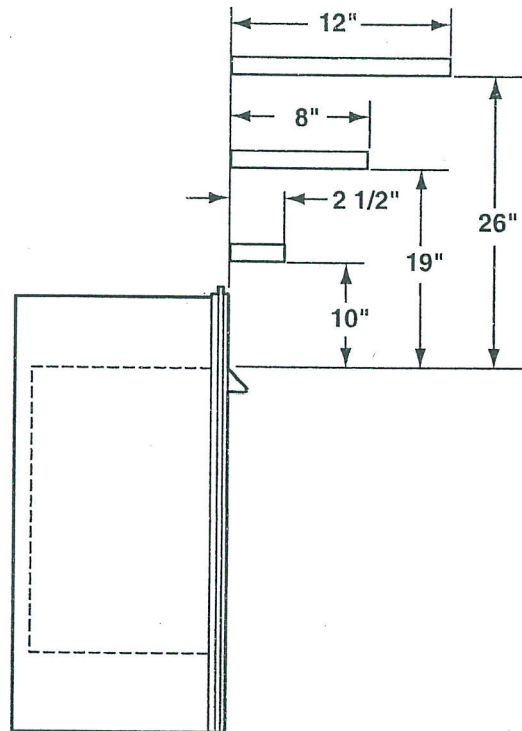

Figure 10. Minimum Mantel Clearances
5. **Mantel clearances:** The canopy supplied with the unit must be installed. If a combustible mantel is installed. It must meet the clearance requirements detailed in *Figure 10*.